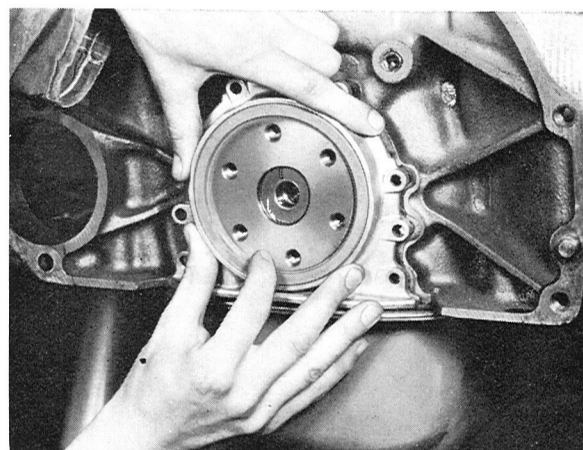

Fig. 2-47. Flange installation
4. Install the flange, its sealing surface being well cleaned, and a new gasket. (Oil first the seal.) The flange should be mounted on the crankshaft carefully, see Fig. 2-47. Use your finger to position the sealing lip.